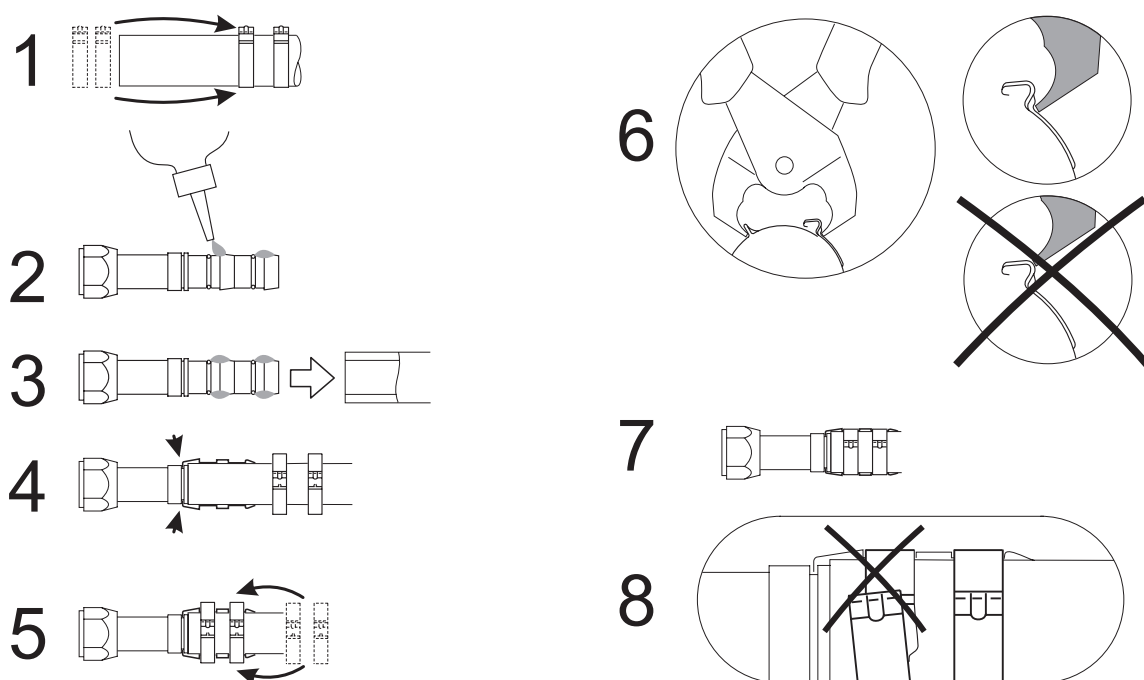

Fig. 403A Install the clip system
4.2 Install the clip fitting (Fig. 403A)
- Fit two clips of the appropriate size to the cut end of the hose (1). The direction of the clips has no effect on the performance of the connection. To make the installation work easier, both clips should face in the same direction.
- Coat the nipple with plenty of refrigerant (2). This **must** be done to reduce the force required to insert the nipple.
- Fit the nipple into the hose (3). To ensure that the nipple has been fitted properly, check the gap between the end of the hose and the nipple collar. Do not kink or otherwise damage the hose as you fit the nipple. Remove any excess oil from the nipple and hose.
- Engage the bar in the nipple groove, leave the arms of the bar pointing in the same direction as the hose (4). If the bar is correctly installed it can be rotated relative to the nipple. The bar ensures that the clips are positioned over the O-rings and that the connection will satisfy the pressure requirements, that is why the bar **must** be fitted.
- Position the clips over the arms of the bar in the ducts provided (5).
- Close the clips with the clip pliers (7). Hold the pliers at right-angles to the clip connection points as you do so (6). They should also be at a right-angle when you close the clips.